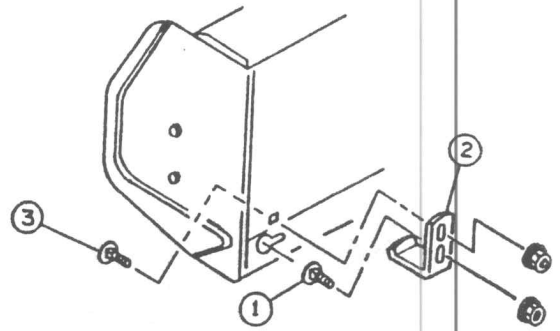

FIGURE 1
- a) Insert one 5/16 X 3/4" carriage bolt (fig. 1, item 1) through bottom slot of each skid shoe (item 2) from inside the bend. Secure loosely with nuts. Insert bolt heads (item 1) through round holes in collector housing and slide square shank portion of bolt in slot. Secure skid shoes to collector housing using another 5/16 X 3/4" bolt (item 3) from inside collector housing through each skid shoe, secure with nuts.